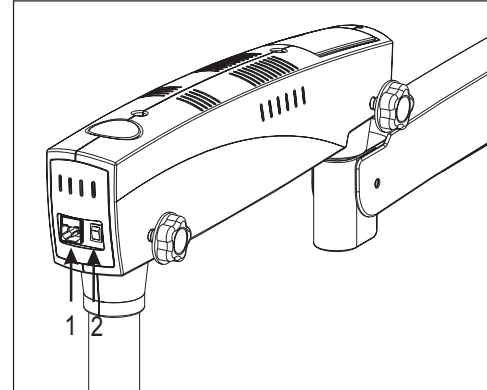

Fig. 8
9.1 ON/OFF switch (Shown as 2 in fig. 8 above)
Locks the stand from unwanted movement by pressing down the two brakes provided on caster wheels. To unlock press upper portion of brake. See Figure 8.